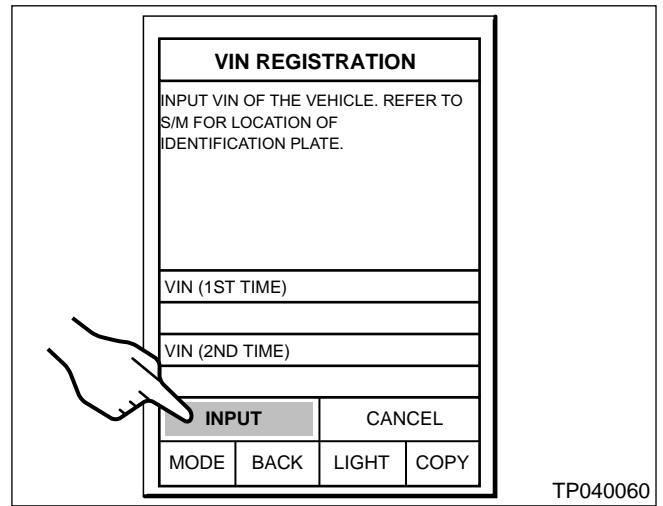

Figure 12
- e. Select **INPUT** on the "VIN Registration" screen. See Figure 12.